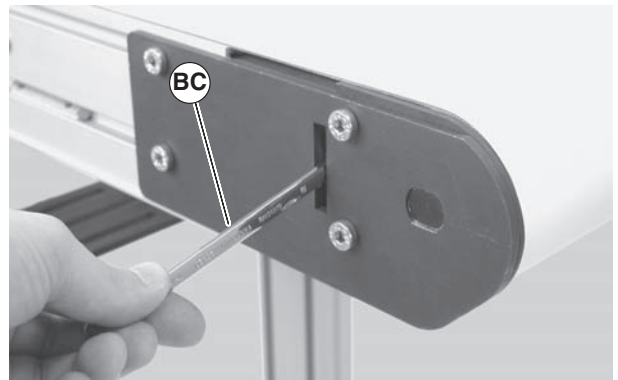
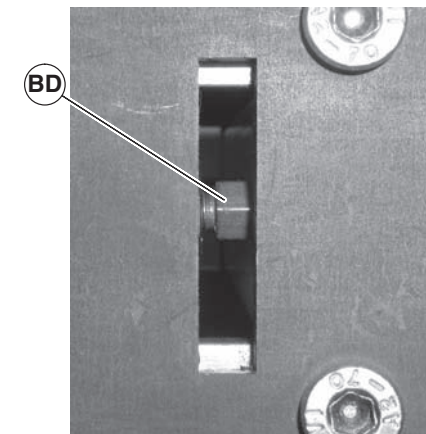

Figure 43
Figure 44
3. With the conveyor running, use wrench (Figure 43, item BC) to rotate the tracking screw (Figure 44, item BD) in small increments until the belt tracks in the center of the conveyor.